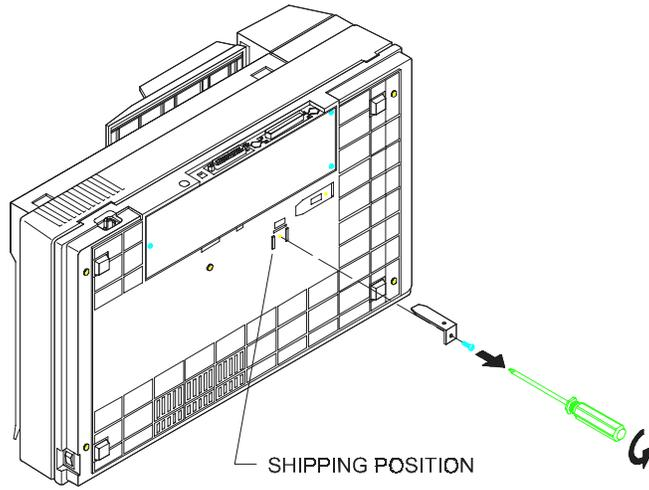

Figure 2-1 Removing the Shipping Bracket
2.1.1 Removing the Shipping Bracket (refer to figures 2-1 and 2-2).....	2-1
2.1.1 Removing the Shipping Bracket (refer to figures 2-1 and 2-2)
Note: For steps (iv) to (vi) please refer to figure 2-1 and 2-2